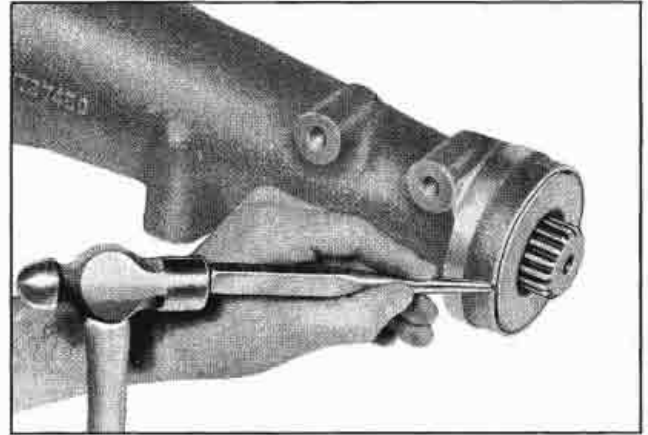

Fig. 7-28 Removing Extension Oil Seal
4. Using punch or other suitable tool (Fig. 7-28), loosen seal from extension and remove.